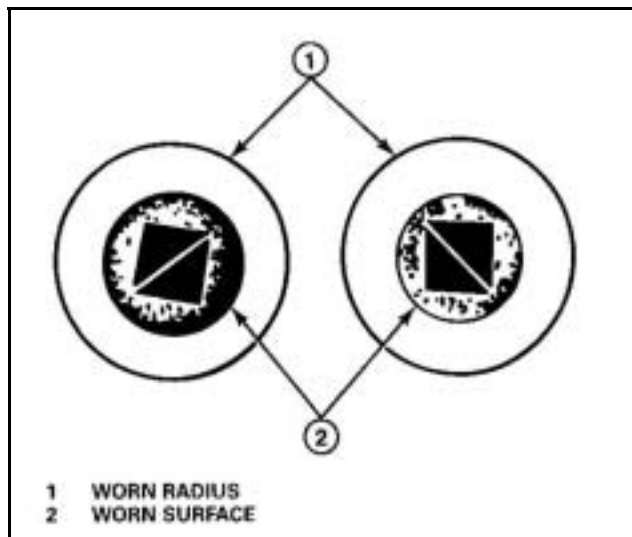

Figure 36
- a. The center of large-diameter end of rollers worn level with or below the outer surface. **Figure 36.**
- b. The radius at large-diameter end of rollers worn to a sharp edge. **Figure 36.**